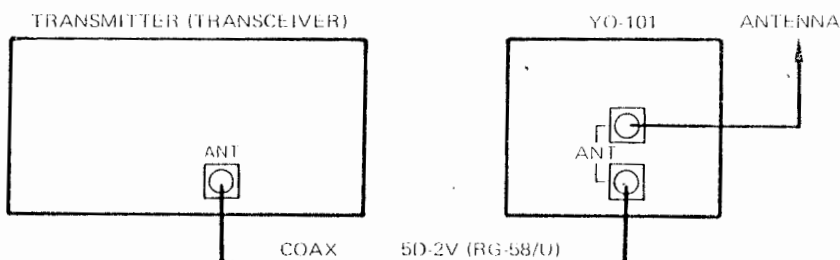

Figure 2
- (1) Connect the RF output of the transmitter, transceiver, or linear amplifier (500 watts maximum) to either coaxial connector marked ANT on the rear of the Monitorscope. Connect a dummy load or antenna to the other ANT connector. Figure 2 details these connections.
- (2) Set the MONITOR INPUT switch to the proper setting as shown in Table 1.